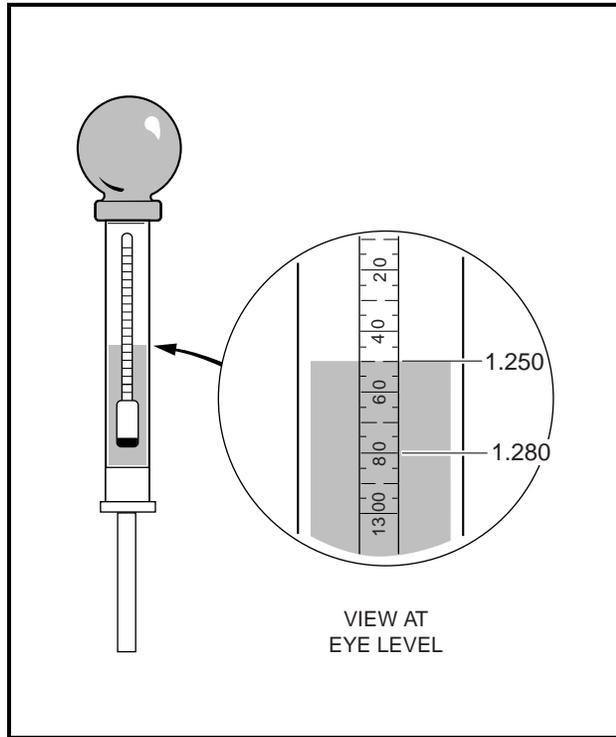

Figure 13-8 Hydrometer
6. Hold the hydrometer vertically, ensuring the float is not touching the sides of the barrel. Hold the hydrometer at eye level and read the scale at the level of electrolyte. Record the reading (**Figure 13-8, Page 13-10**).